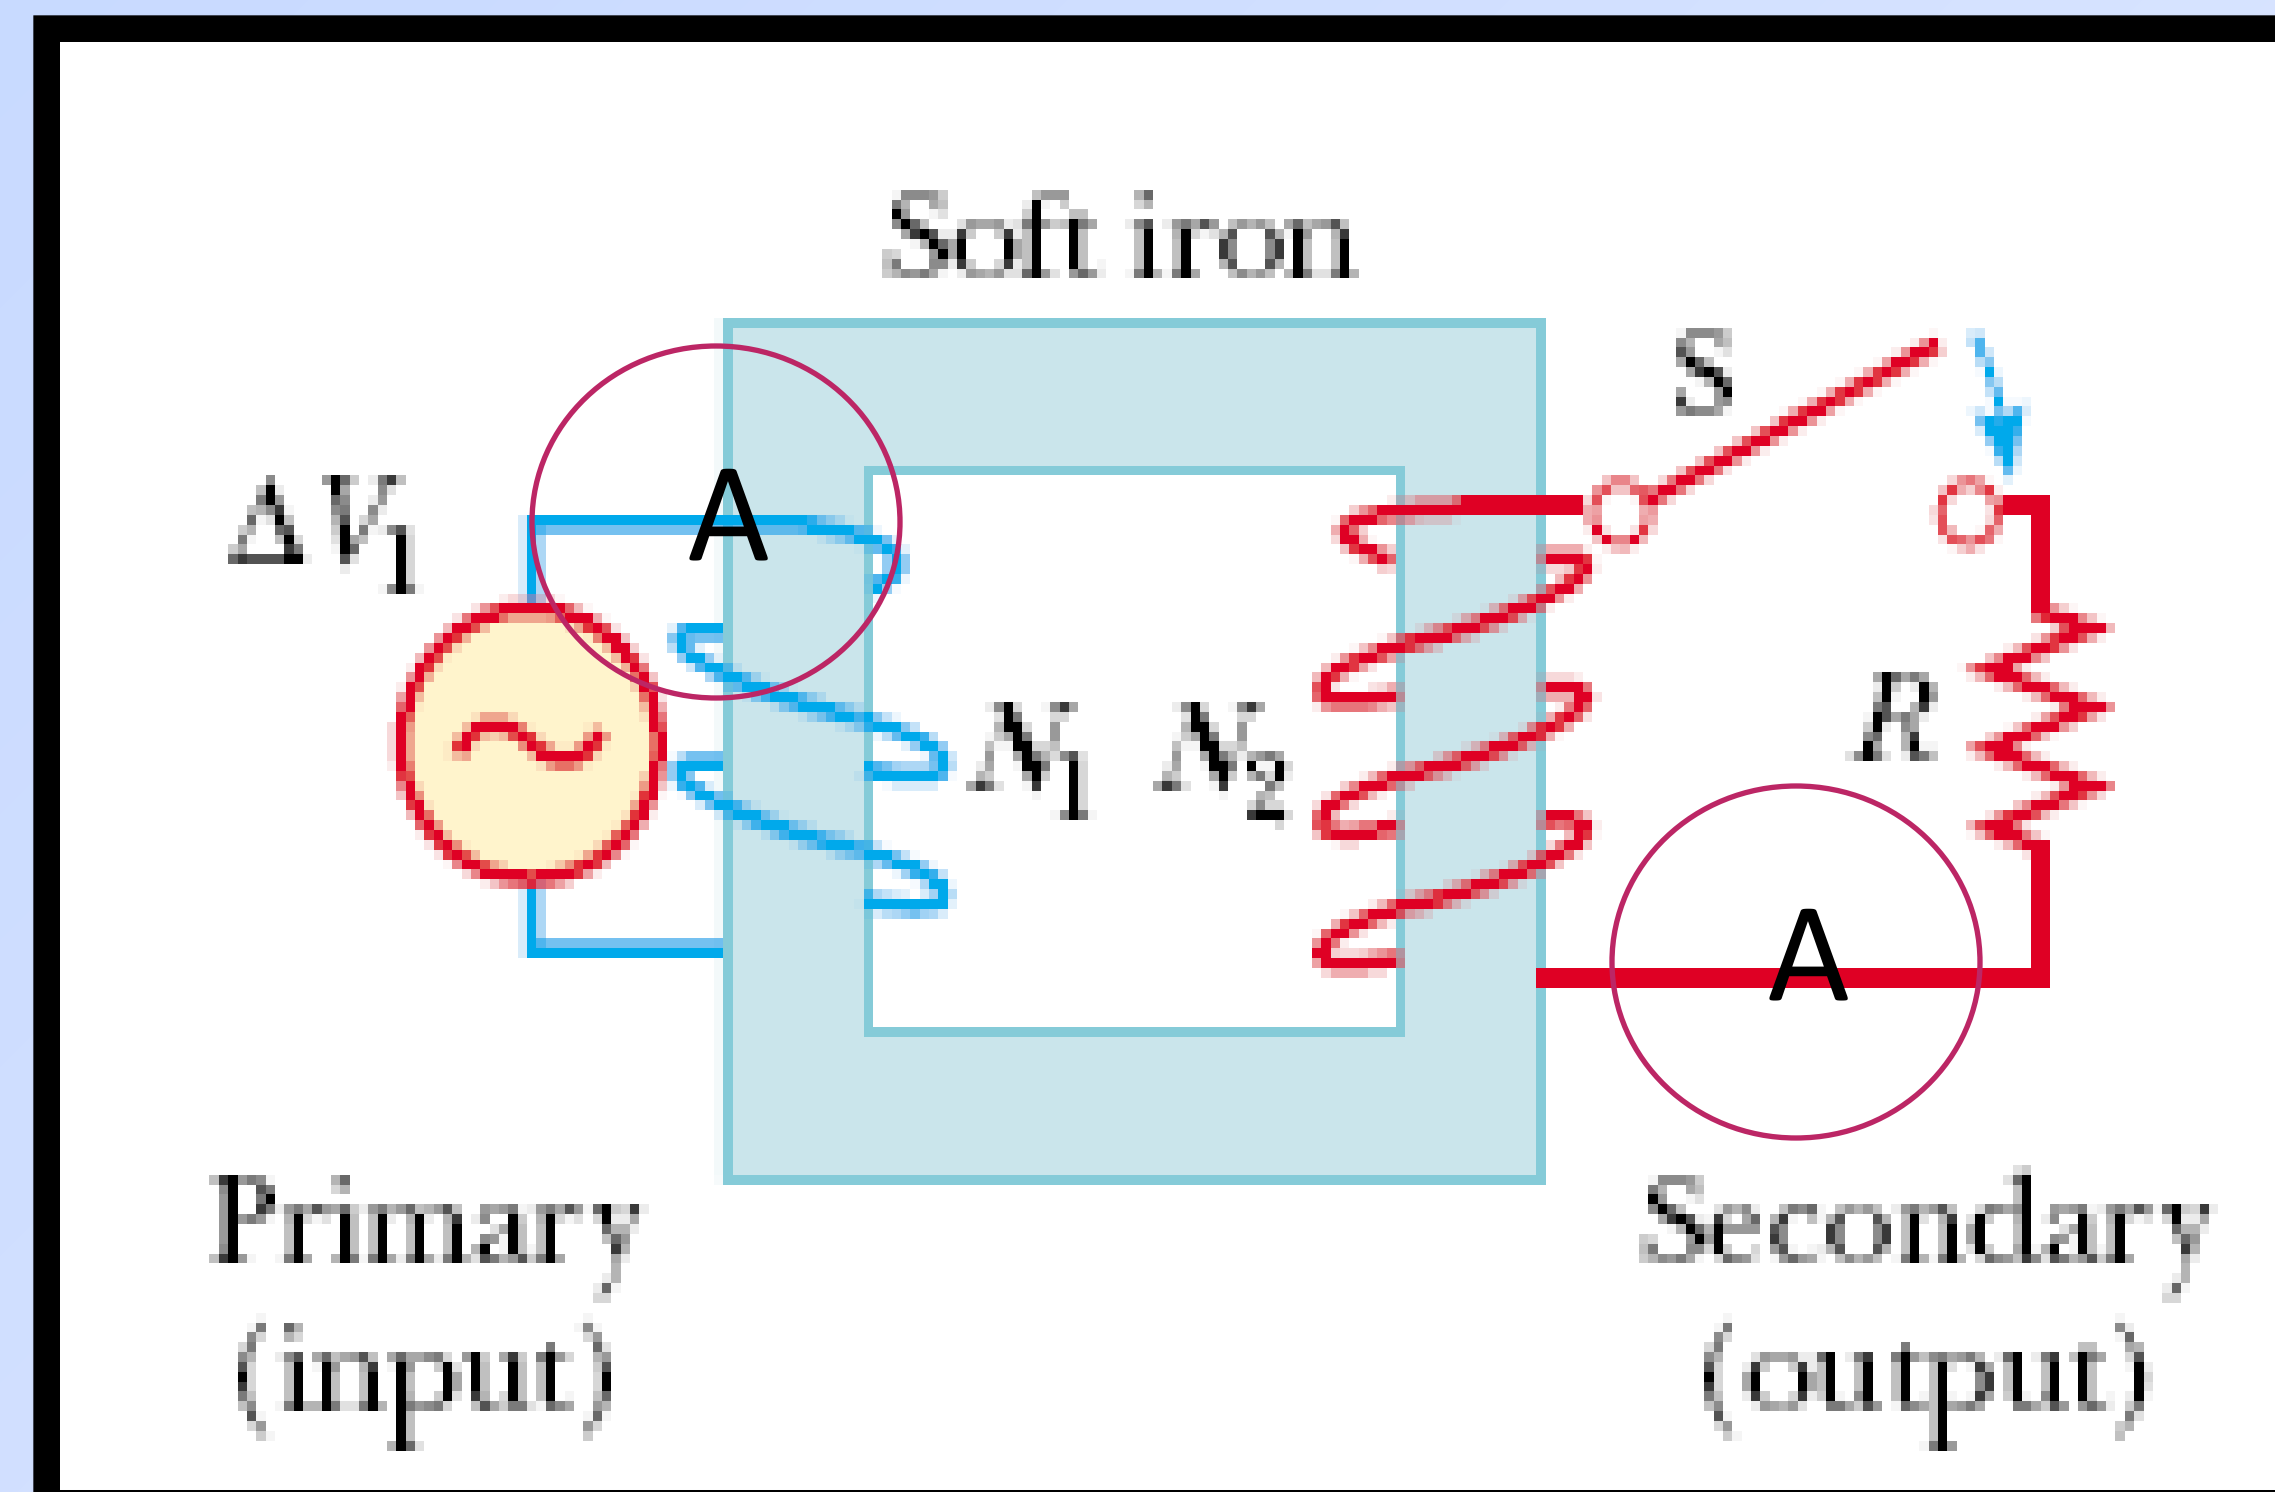

Figure 2. A circuit diagram of a transformer connected to AC primary power source, and a load resistance R , connected to the secondary coil.
Typical transformers have power efficiencies from 90% to 99%. In the discussion that follows, figure 2, we assume an ideal transformer, one in which the energy losses in the windings and core are zero. Faraday's law states that the voltage ΔV_1 across the primary is
The power supplied to the secondary circuit must be provided by the AC source connected to the primary circuit, as shown in the figure 2. In an ideal transformer, where there are no losses, the power $I_1 \Delta V_1$ supplied by the source is equal to the power $I_2 \Delta V_2$ in the secondary circuit. That is
- 1- Connect the circuit as shown in figure 2, and apply a constant voltage to the input.